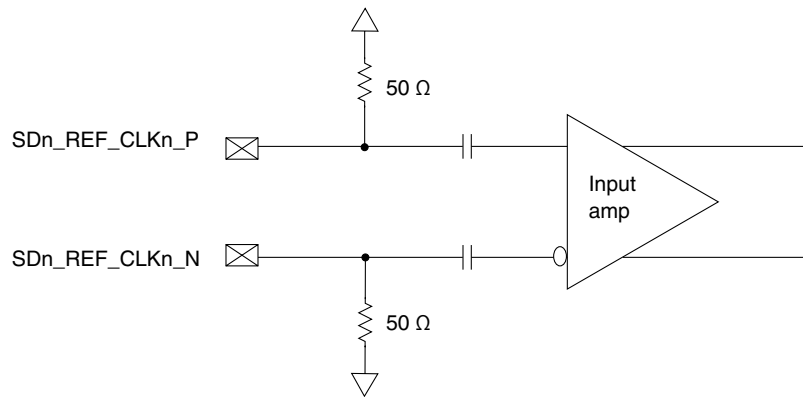

Figure 68. Receiver of SerDes reference clocks
- They are internally AC-coupled differential inputs as shown in Figure 68. Each differential clock input (SDn_REF_CLKn_P or SDn_REF_CLKn_N) has on-chip 50-Ω termination to SD_GND followed by on-chip AC-coupling.